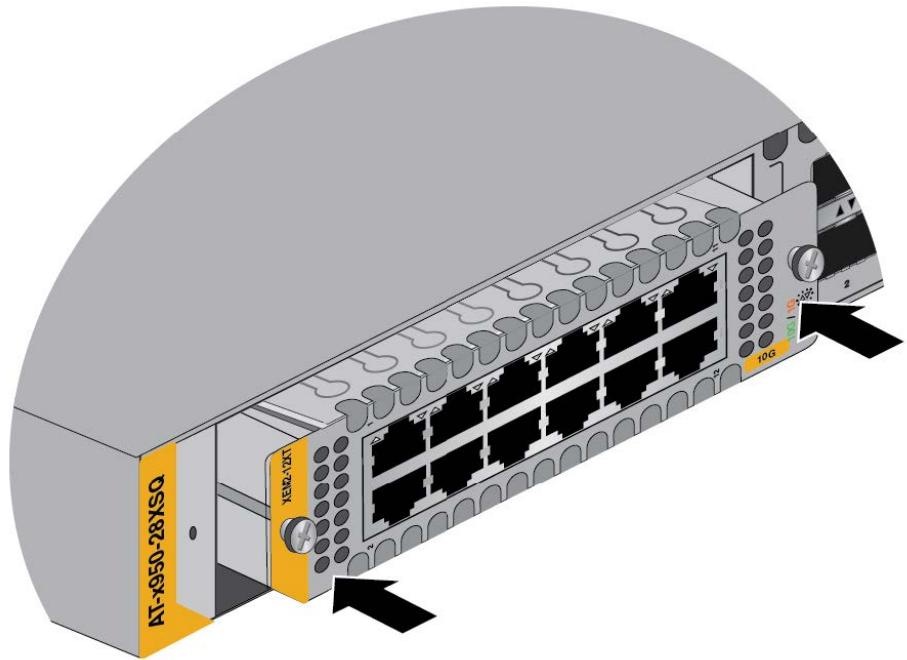

Figure 77. Seating the XEM2 Line Card in the Expansion Slot
4. When the line card makes contact with the internal connector in the switch, gently press on the sides of its faceplate to seat it on the connector. Refer to Figure 77.